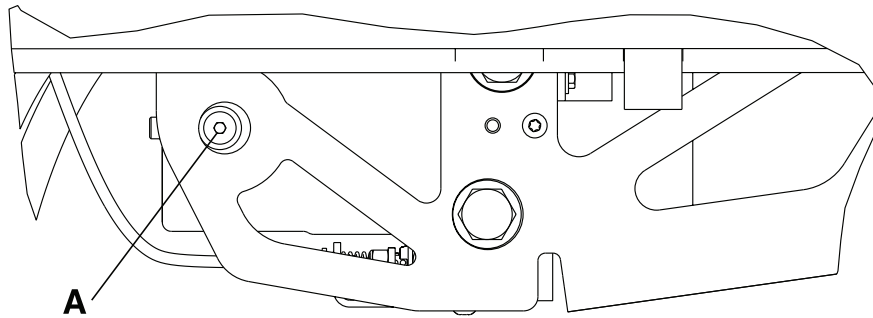

Figure 7: Hydraulic assembly reservoir
3. Using a 3/16" hex wrench, remove the port plug (A). (Figure 7 on page 36).